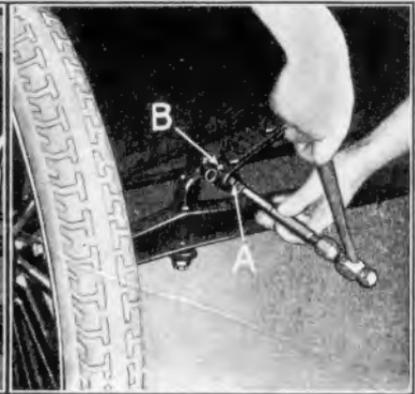

Fig. 378
- 713 The new bushings are inserted into spring and perches and driven into place with a driver as shown in Fig. 378. When installing bushings, make sure that oil hole in bushing (See "A" Fig. 378) lines up with oiler "B" in both spring and perches.